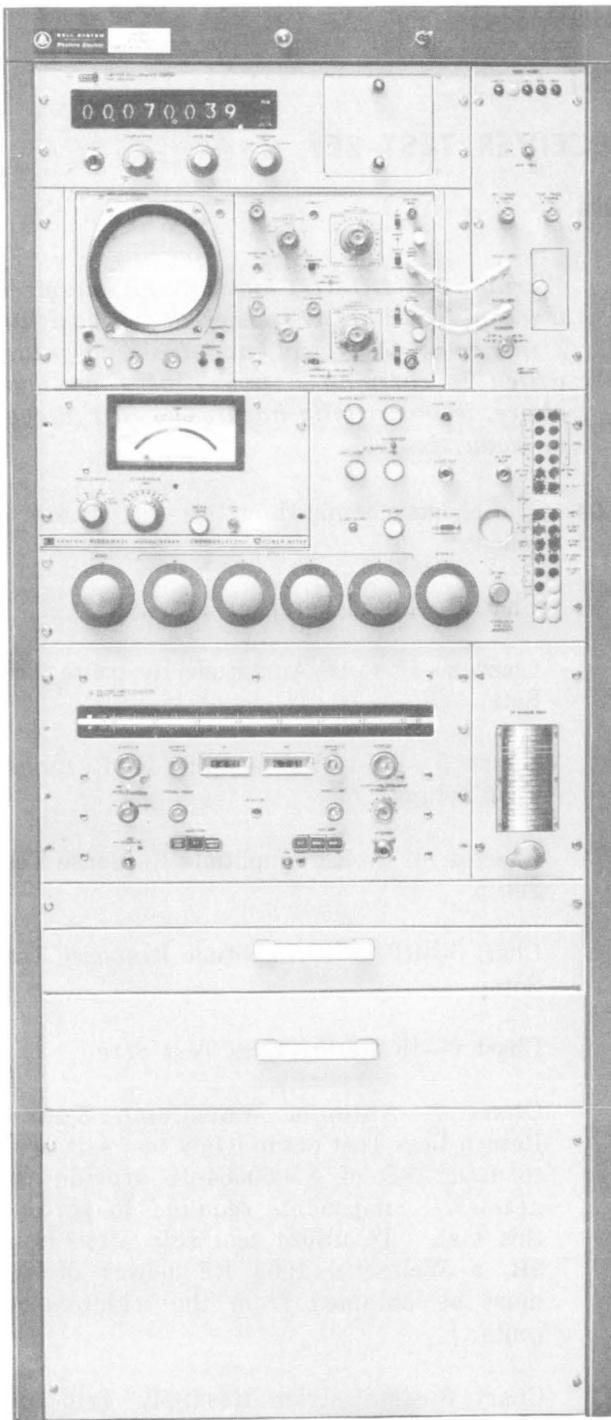
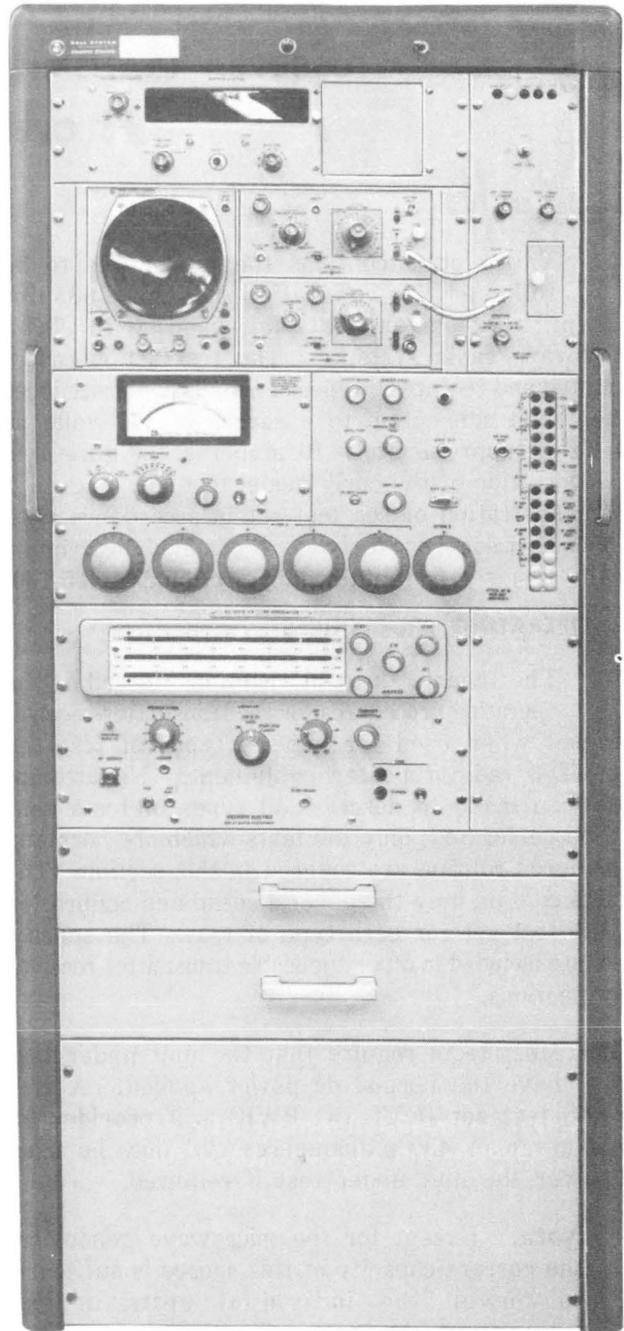

Fig. 1—J68392A Transmitter-Receiver Test Set
Fig. 2—J68392A Transmitter-Receiver Test Set
**1.01** This section contains the procedures to be followed for operation of the J68392A transmitter-receiver test set used with TD-3 microwave radio systems. The test set is caster mounted and requires no special installation procedures other than connection to a source of 117 volts ac 60 Hz at approximately 10 amperes. Figure 1 is an illustration of the early model test set. Figure 2 is an illustration of the test set in accordance with SD-50564, Issue 12 and above. A complete description of the test set is contained in Section 104-415-100.